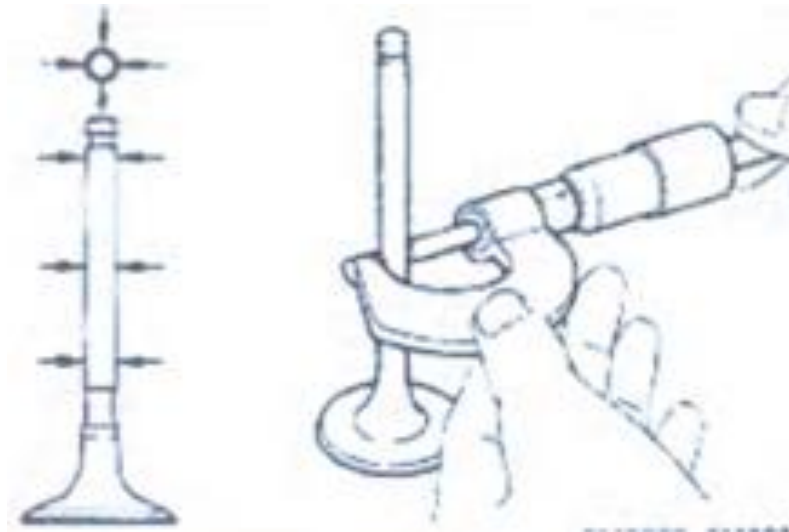

Fig.21
- Measure the outside diameter of the valve stem "d" using an outside micrometer (Fig. 21).